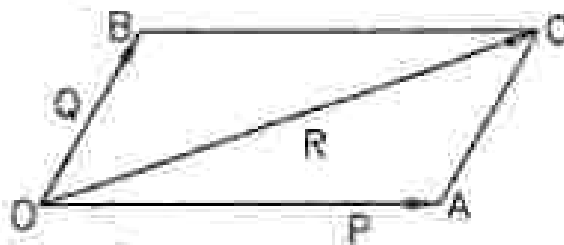

Fig 1.15
- In figure 1.15, R is the resultant of forces P and Q . If R is the resultant of two forces P and Q , it means forces P and Q can be replaced by R . Similarly, R can be replaced by two forces P and Q whose joint effect on a body will be the same as R on the body. Then these two forces P and Q are called components of R .